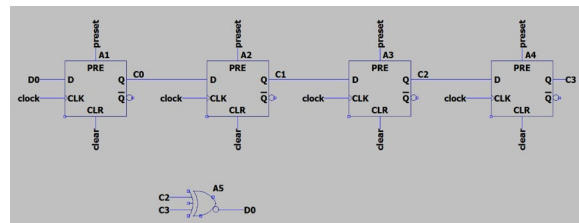

Fig.1c
- c) Pseudorandom counter as shown in Fig.1c